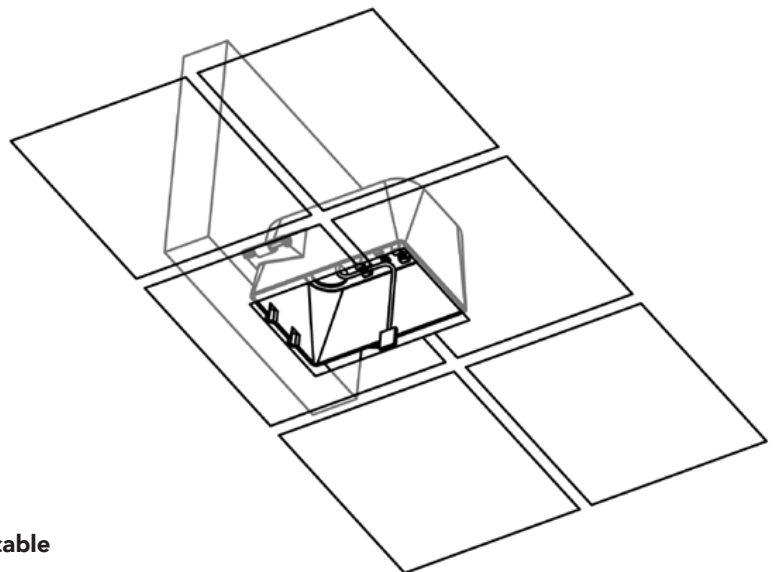

Figure 10
5. After the junction box is completely installed, ensure that you create an opening in the steam room ceiling that aligns with the junction box (**Figure 10**).